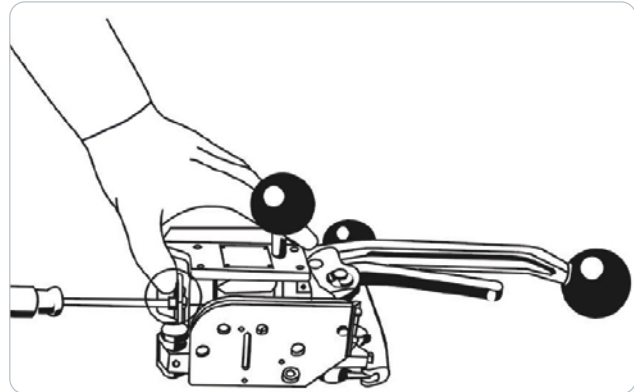

Figure 9: Punching force adjustment
1. Place the SU-M1219 sideways on a work table (see Figure 9).